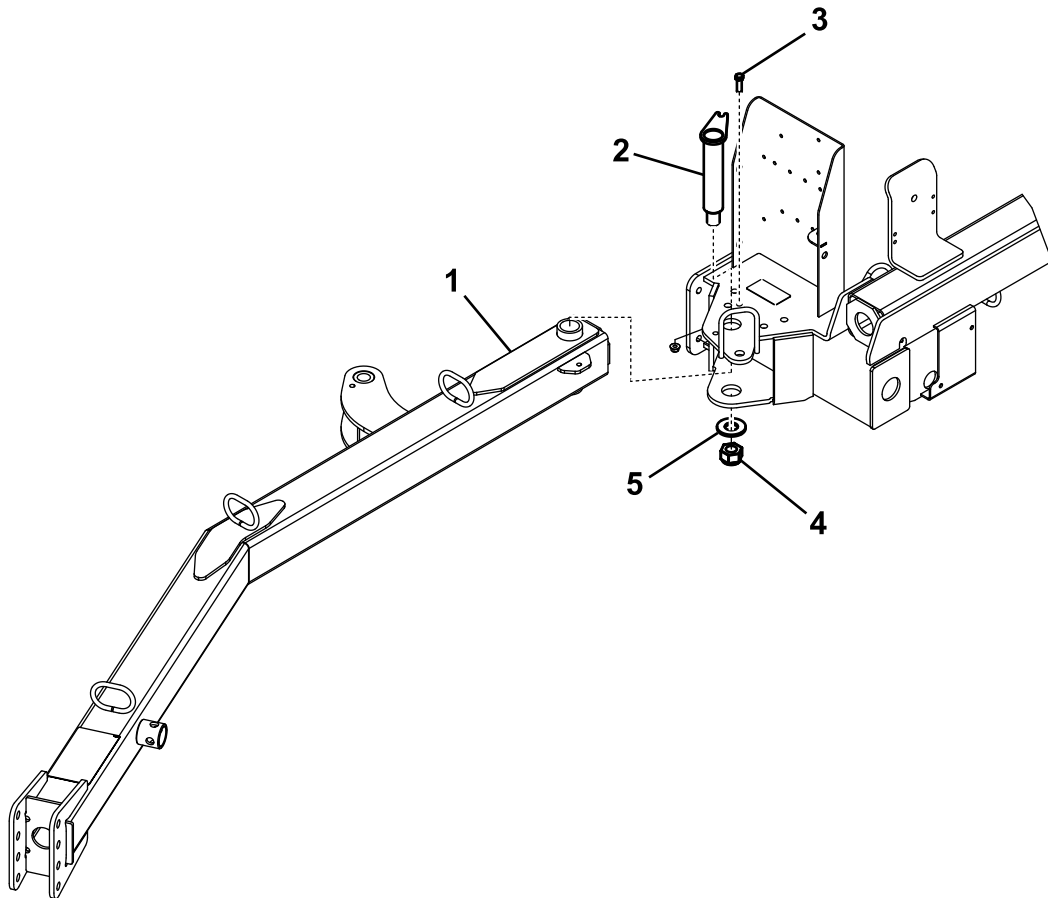

Figure 3
1. Insert the rear end of the hitch tongue between the mounting plates on the machine while aligning the mounting holes (Figure 3).
2. Insert the hitch pin through the mounting plates and the hitch tongue (Figure 3).
3. Secure the top of the hitch pin to the mounting plate with a bolt (3/8 x 1-1/4 inch) and a locknut (3/8 inch) as shown in Figure 3.
4. Secure the bottom of the hitch pin with a large washer and a large nut (Figure 3).